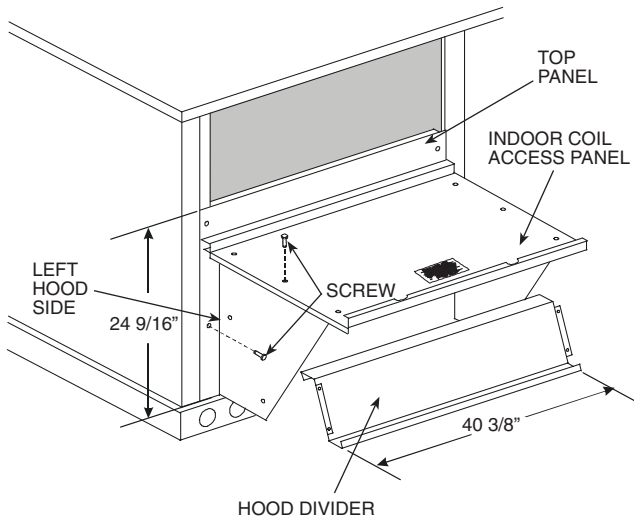

Fig. 20 — Outdoor-Air Hood Construction
4. Swing out the indoor coil access panel and insert the hood sides under the panel (hood top). Use the screws provided to attach the hood sides to the hood top. Use the screws provided to attach the hood sides to the unit. See Fig. 20.
6. Insert the hood divider between the hood sides. See Fig. 20. Secure hood divider with 2 screws on each hood side. The hood divider is also used as the bottom filter rack for the aluminum filter.